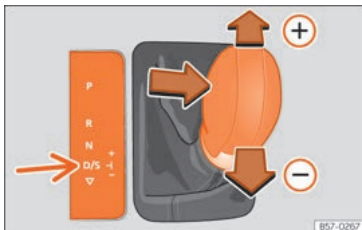

Fig. 259 Centre console: changing gear with tiptronic
- Move the selector lever forwards  to select a higher gear »» **Fig. 259**.